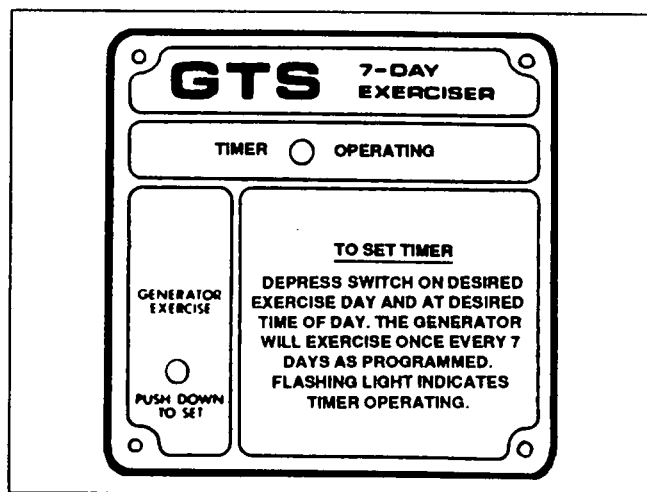

Figure 2. Exercise Circuit Board Cover
See Figure 2. A "Generator Exercise" switch has been provided. On the desired day of exercise and at the desired time of day, push the switch in and hold for about 15 seconds. The system will automatically start and exercise every seven (7) days thereafter, on the day and at the time of day selected.